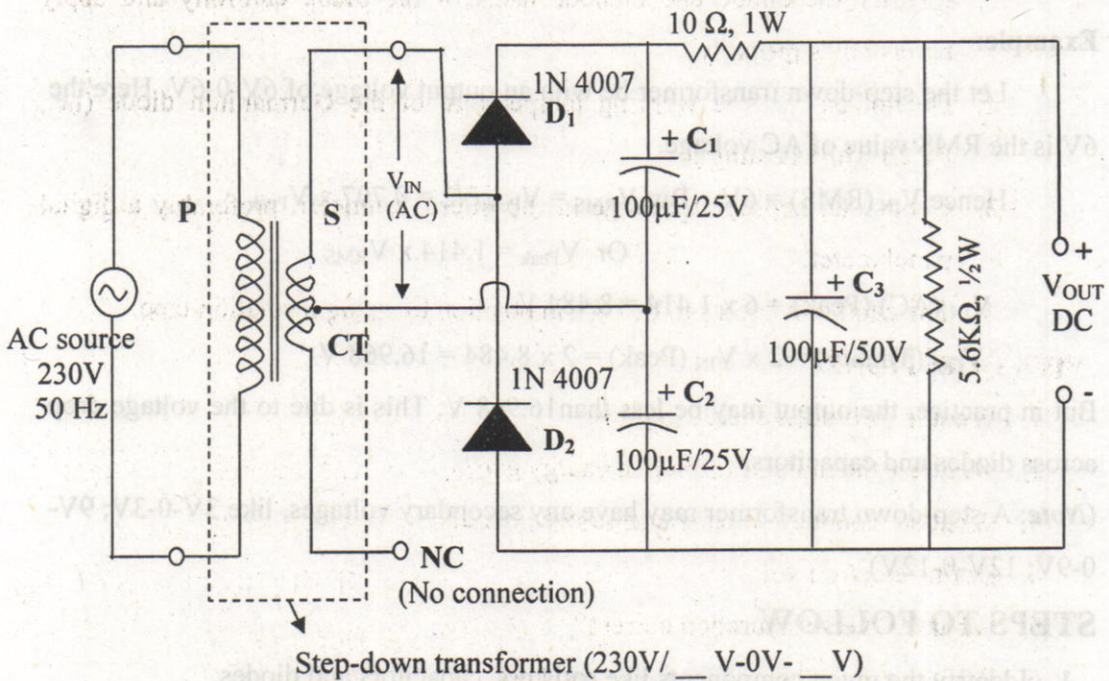

Fig.13.1
The voltage doubler can utilize either one half cycle or both half cycles (+ve and -ve) of its input voltage waveform. Hence, we can have either a half wave voltage doubler or a full wave doubler. In the full wave voltage doubler circuit, shown in Fig.13.1, a centre tapped transformer is fed with an AC power to its primary coil (P). The AC output from the secondary coil (S) is applied to the diodes and capacitors as shown. During the positive half cycle of AC input, diode D_1 gets forward biased and charges the capacitor C_1 . Then a DC voltage, equal to the peak value of the AC input voltage, will be developed across the capacitor C_1 . Similarly, during the negative half cycle of the AC input, diode D_2 gets forward biased and charges the capacitor C_2 . Then a DC voltage, equal to the peak value of the AC input voltage, will be developed across the capacitor C_2 . These two peak voltages are added together giving rise to double the peak value of AC input voltage. Any ripples (AC component) that are left in the output across C_1 and C_2 combination are smoothed out or filtered by the third capacitor C_3 . Thus the circuit acts as a voltage doubler.
7. Connect the circuit as shown in Fig.13.1 on a bread board for observing the behaviour of voltage doubler.